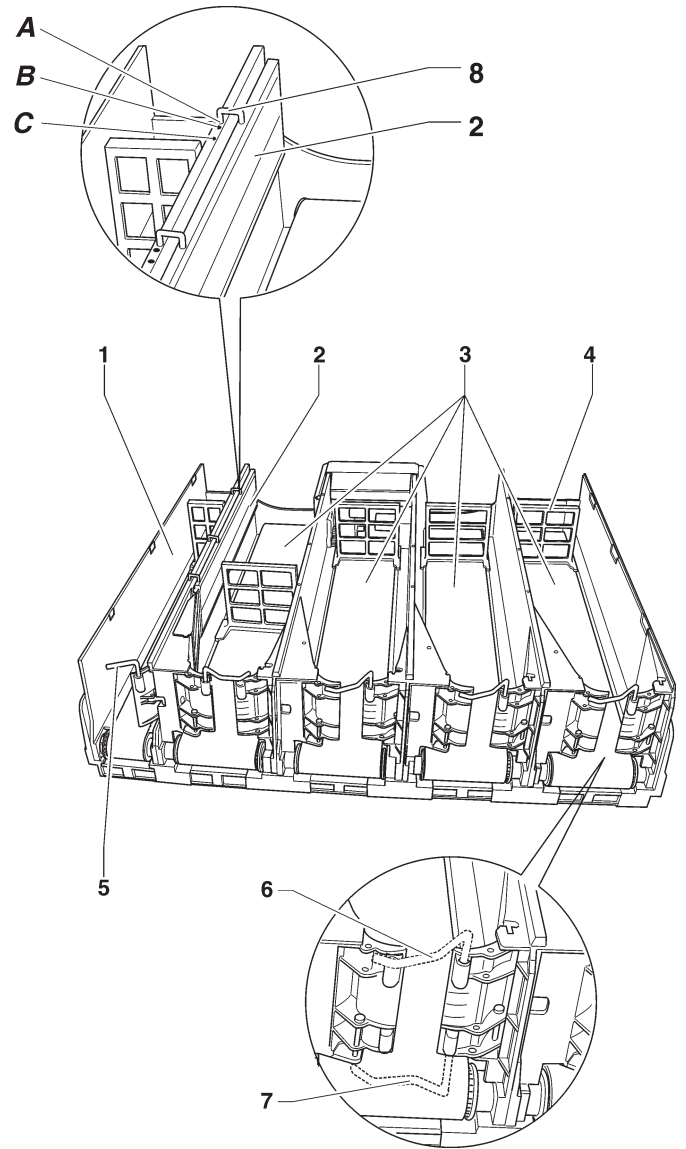

fig. 10
The spacer is coupled into the holes on the left wall of the compartments (see fig. 10) by means of brackets; every single hole (A,B or C) will correspond to a different size range of products used to fill the compartment.
- Double compartments, **SOFTVEND available**, have a product deviator (see figure 10, point 6) to allow the products to properly fall into the SOFTVEND pocket.
- Double compartments, **SOFTVEND not available and only if suitable for dispensing 33cl cans**, have a specific deviator (see figure 10, point 7).